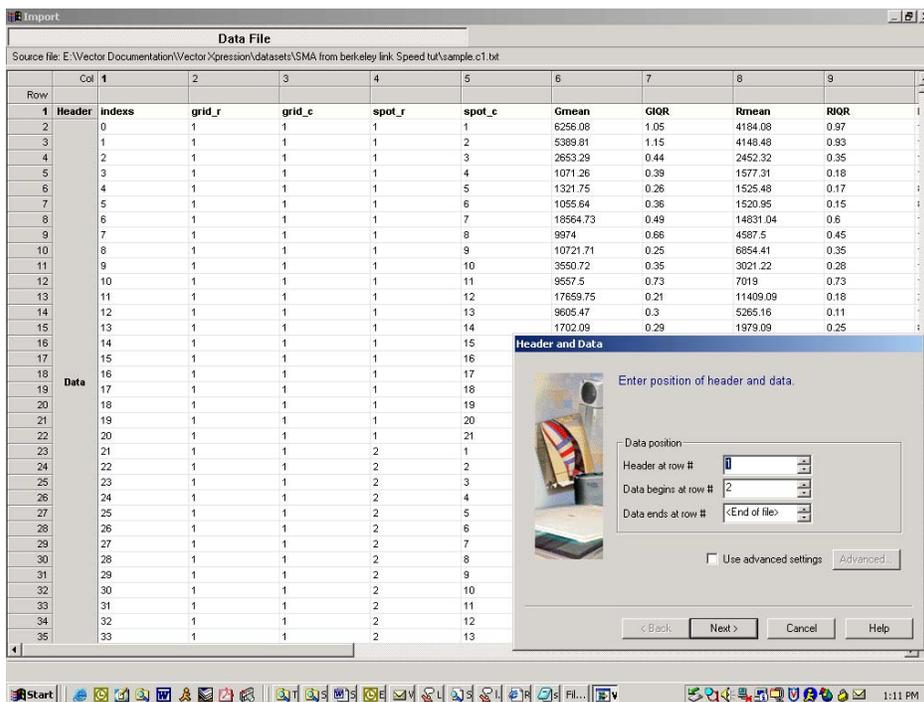

Figure 7 Open source file displaying experimental data
1. In the open source file, note the location of the Header row and Data start and end rows (Figure 7). The Header is the first row in the file and usually contains the column names. The data is contained in rows 2 through 6385.
Signal and Background are the names for the relevant data columns to be used in Vector Xpression. In the source file (Figure 7 on page 7), note that columns 6 and 10 contain signal and background data for one channel, and columns 8 and 13 contain signal and background data for the other channel.